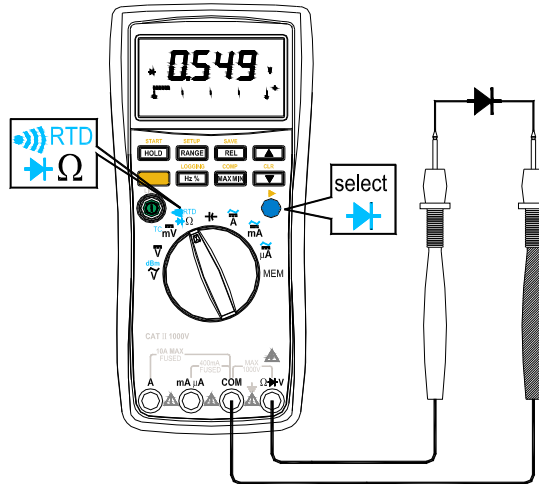

Figure3-7. Diode Test
**Testing Diodes (See Figure3-7)**